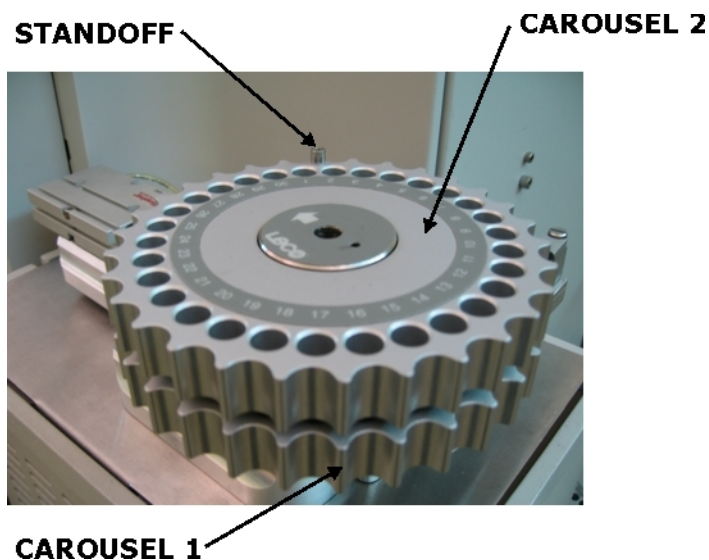

Figure 3-5
9. Without moving the bottom plate, align the standoffs and install the second carousel on top of the first carousel. The standoff on the first carousel should be inserted into the hole in the second carousel directly under the standoff in the second carousel. Refer to Figure 3-5 below.